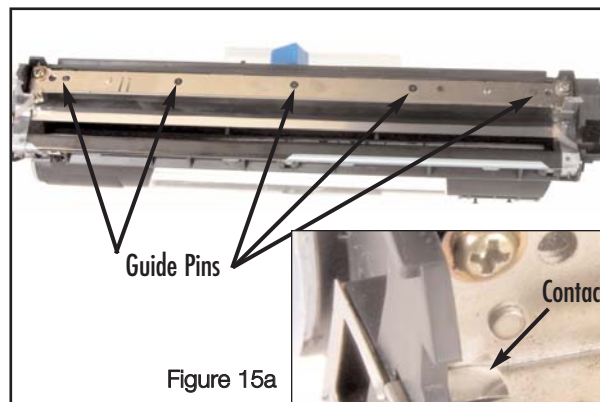

Figure 15a
- a. Position the doctor blade over the guide pins, see Figure 15a.